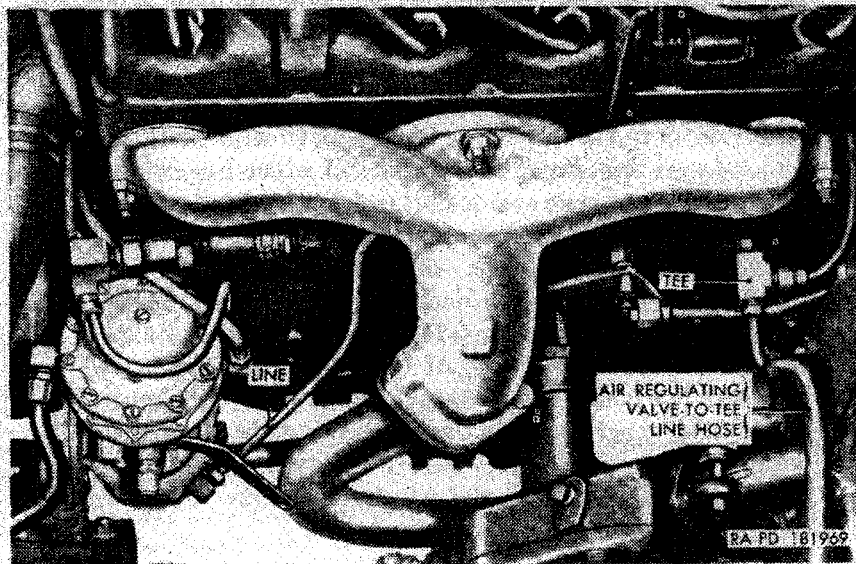

Figure 188. Vacuum pump-to-tee line—installed.
ulating valve-to-distributor tee line hose off the tee-to-windshield wiper line installed on the tee mounted on the vacuum pump-to-tee line (fig. 188). Remove the internal-teeth lockwasher screw securing the windshield wiper hose-to-cowl clip to the dash panel. Remove the air regulating valve-to-distributor tee line hose by pulling it through the instrument panel, glove compartment, dash panel, and clip. Remove the two internal-teeth lockwasher screws securing the windshield wiper air regulating valve (N) to the windshield frame and remove the valve. Remove two windshield wiper hose bushings (R) from the instrument panel and body cowl.
(b) *Installation.* Place the windshield wiper air regulating valve (N) in position, with extensions horizontal and lever pointing down, at the bottom of the windshield frame. Secure the valve to frame with two No. 10-24NC-2 x $\frac{1}{16}$ internal-teeth lockwasher screws. Insert a $\frac{13}{32}$ -inch diameter windshield wiper hose bushing into the wiper line hole in the body cowl. Insert a $\frac{1}{16}$ -inch diameter windshield wiper hose bushing (R) into the wiper line hole in the instrument panel. Insert one end of the windshield wiper air regulating valve-to-tee line hose (M) through the instrument panel, glove compartment, and dash panel until it enters the engine compartment. Slide the windshield wiper hose-to-cowl clip onto the lower end of the hose. Slide the lower end of the hose onto the tee-to-windshield wiper line installed on the tee mounted on the vacuum pump-to-tee line (fig. 188). Secure the clip to the dash panel with one No. 10-24NF-2 x $\frac{1}{16}$ internal-teeth lockwasher screw. Slide the end of the hose that is in the driver's compartment onto the right extension on the air regulating valve. Slide one end of the windshield wiper air regulating valve-to-left line hose (Q) onto the left extension on the air regulating valve. Slide the other end of the hose onto the lower end of the windshield wiper left line (A). Lower the hood and lock in closed position (par. 255b).
- (1) *Removal.* Raise the hood and lock in raised position (par. 255a). Unscrew the fitting on the vacuum pump-to-tee line (fig. 188) from the elbow at the bottom of the fuel and vacuum pump. Remove the safety nut securing the clip on the line to the lower right stud used to mount the exhaust manifold. Pull the clip off the stud. Unscrew the fitting on the line from the tee that is also mounted on the distributor-to-windshield wiper fitting vent line. Remove the line from the engine compartment. Slide the clip off the line.
- (2) *Installation.* Slide the clip onto the vacuum pump-to-tee line (fig. 188). Position the line within the engine compartment. Connect the fitting on the upper end of the line to the tee mounted on the distributor-to-windshield wiper fitting vent line. Install the clip on the lower right stud securing the exhaust manifold. Install one $\frac{3}{8}$ -inch self-locking nut on the stud and tighten nut to a torque of 29-35 pound-feet. Connect the fitting at the lower end of the line to the elbow at the bottom of the fuel and vacuum pump. Lower hood and lock in closed position (par. 255b).